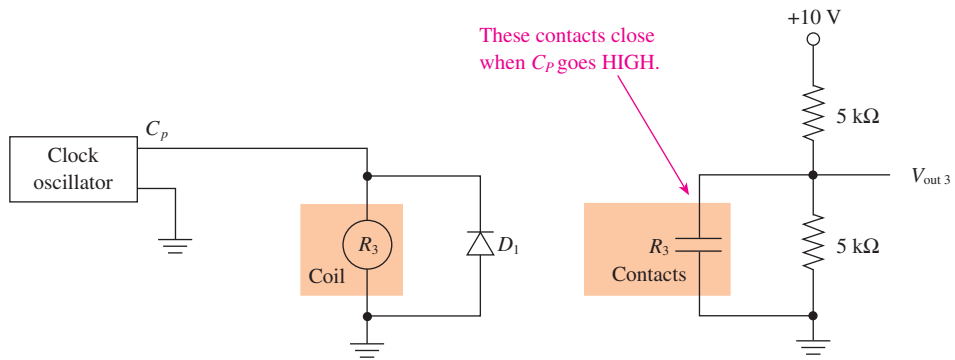
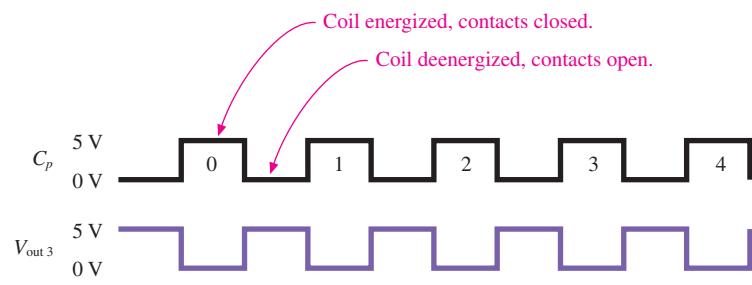

Figure 16 Relay used in a digital circuit.
Figure 17 Timing diagram for Figure 16.
Now, let's go a step further and replace the 5-V battery and switch with a clock oscillator and use a timing diagram to analyze the results. In Figure 16, the relay is triggered by the clock waveform, C_p . The diode D_1 is placed across the relay coil to protect it from arcing each time the coil is deenergized. Timing diagrams are very useful for comparing one waveform to another because the waveform changes states (1 or 0) relative to time. The timing diagram in Figure 17 shows that when the clock goes HIGH (1), the relay is energized, causing V_{out3} to go LOW (0). When C_p goes LOW (0), the relay is deenergized, causing V_{out3} to go to +5 V (using the voltage divider equation, $V_{out} = [10\text{ V} \times 5\text{ k}\Omega] / [5\text{ k}\Omega + 5\text{ k}\Omega] = 5\text{ V}$).